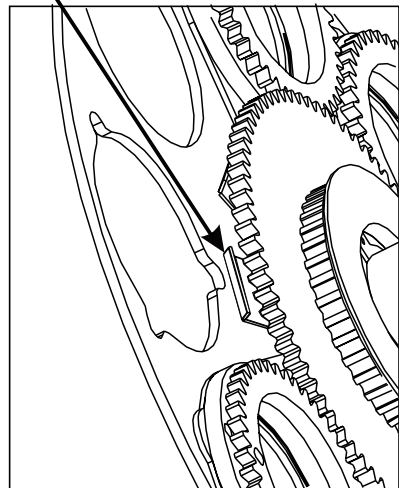

Fig.12
5. Move the ring over the gobo away (fig.12), so you can take out the gobo.
8. Make sure the gobo plate is installed under the pressure plate (C).